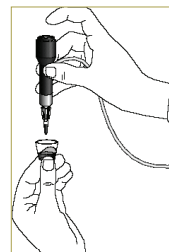

Figure D-5: Double beep—lift tip out of sample
6. **Double Beep**—When the VetTest analyzer beeps twice, lift the tip out of the sample (Figure D-5). Wait for the next signal.